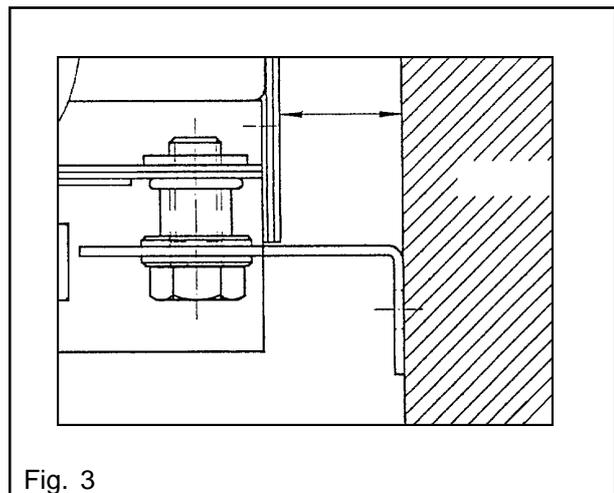

Fig. 3
- The kit 'Securing unit for the wall mounting' must be mounted. (Fig. 3)